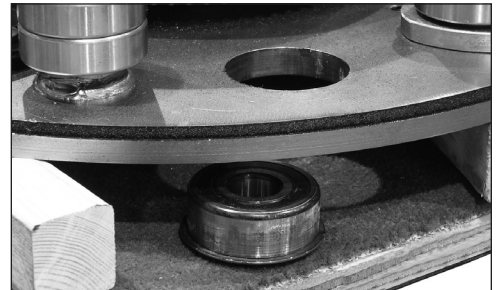

FIG. 7.1
6. Knock out bearing (Figure 7.1) .